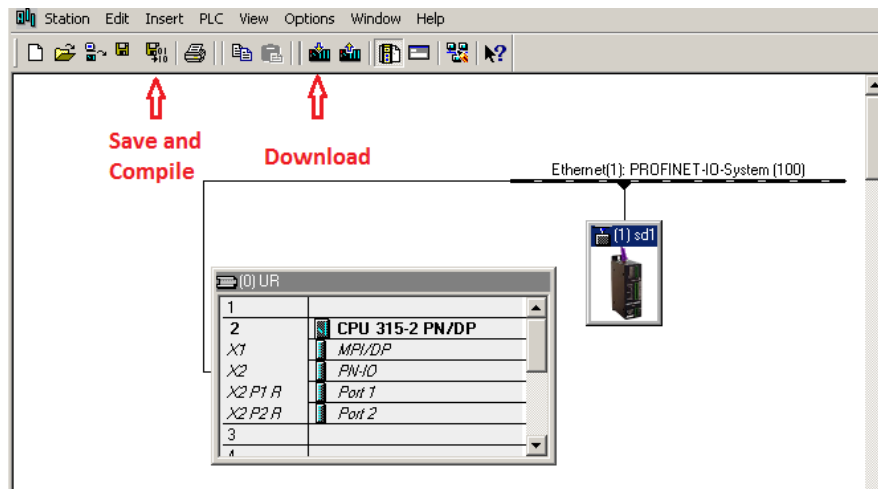

Figure T2.5 Compile and Download New Configuration
- 2) Verify that the PLC and the Networked Driver are connected to the PC and powered up. As shown in Figure T2.5, click on the ‘Save and Compile’ icon. When compiling is complete, click on the ‘Download’ icon to download the new configuration to the PLC.